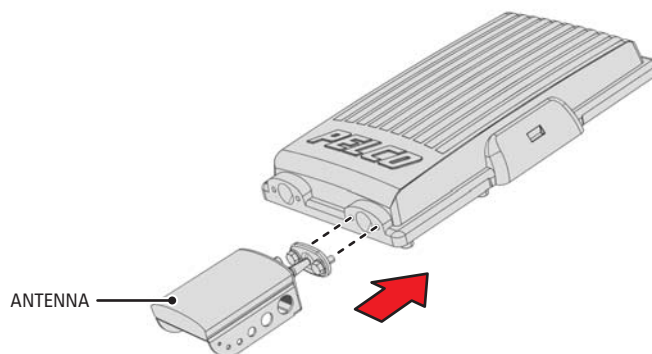

Figure 10. Attaching the Integrated Antenna
- a. Attach the integrated antenna to the EW5002 (refer to Figure 10). Do not tighten the bolts until you align the integrated antenna (refer to *Antenna Alignment* on page 27).